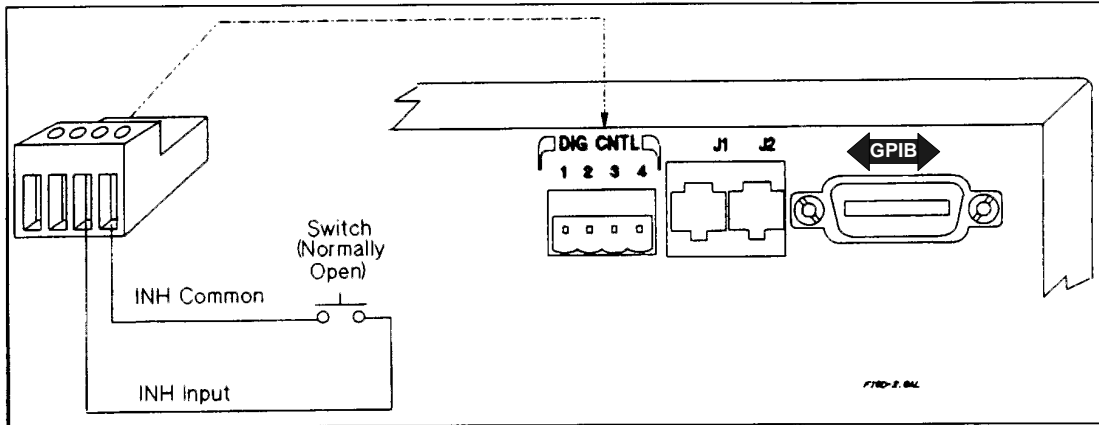

Figure F-2. Example of Inhibit Input
In Figure F-2, the INH input is connected to a switch that shorts pin 3 to pin 4 whenever it is necessary to externally disable the output of the unit. This will activate the remote inhibit (RI) fault protection circuit, causing the front panel **Prot** annunciator to come on. It also sets the RI event bit in the unit’s Questionable Status Event register (see "Chapter 8 - Status Reporting"). To re-enable the unit after it has been disabled by the INH input, first open the connection between pins 3 and 4. Then clear the protection circuit either from the front panel (see "Chapter 5 - Front Panel Operation" in this guide) or over the GPIB (see the Programming Guide).